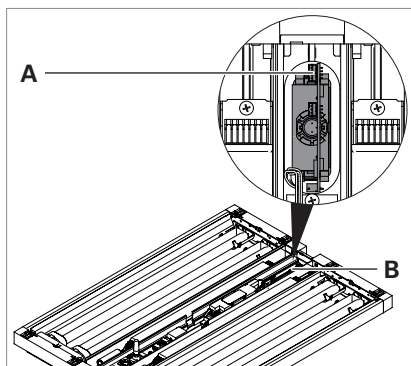

Fig. 5: Interface for luminaires with PIR sensor
- For luminaires with **PIR sensor**: Connect the other end of the connecting line to the interface **A** at the PIR sensor **B** in the luminaire head, see Fig. 5.